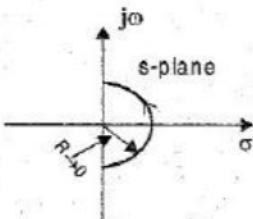
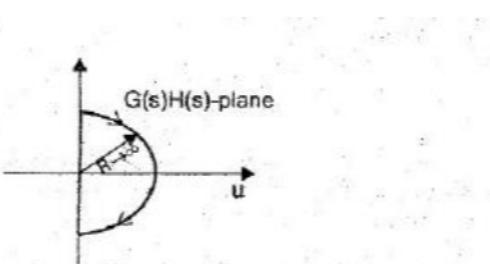

Fig 4.13.8 : Section C_4 in s -plane
Fig 4.13.9 : Mapping of section C_4 in $G(s)H(s)$ -plane
From the equations (3) and (4) we can say that section C_4 in s -plane (fig 4.13.8.) is mapped as a circular arc of infinite radius with argument (phase) varying from $+\pi/2$ to $-\pi/2$ as shown in fig 4.13.9.